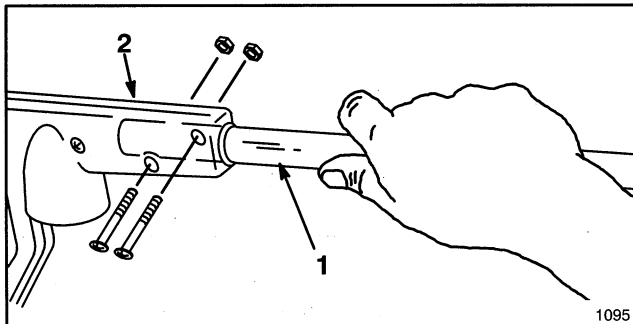

Figure 3
1. Slide tube into upper handle, aligning grooves in tube with screw holes in handle (Fig. 3).